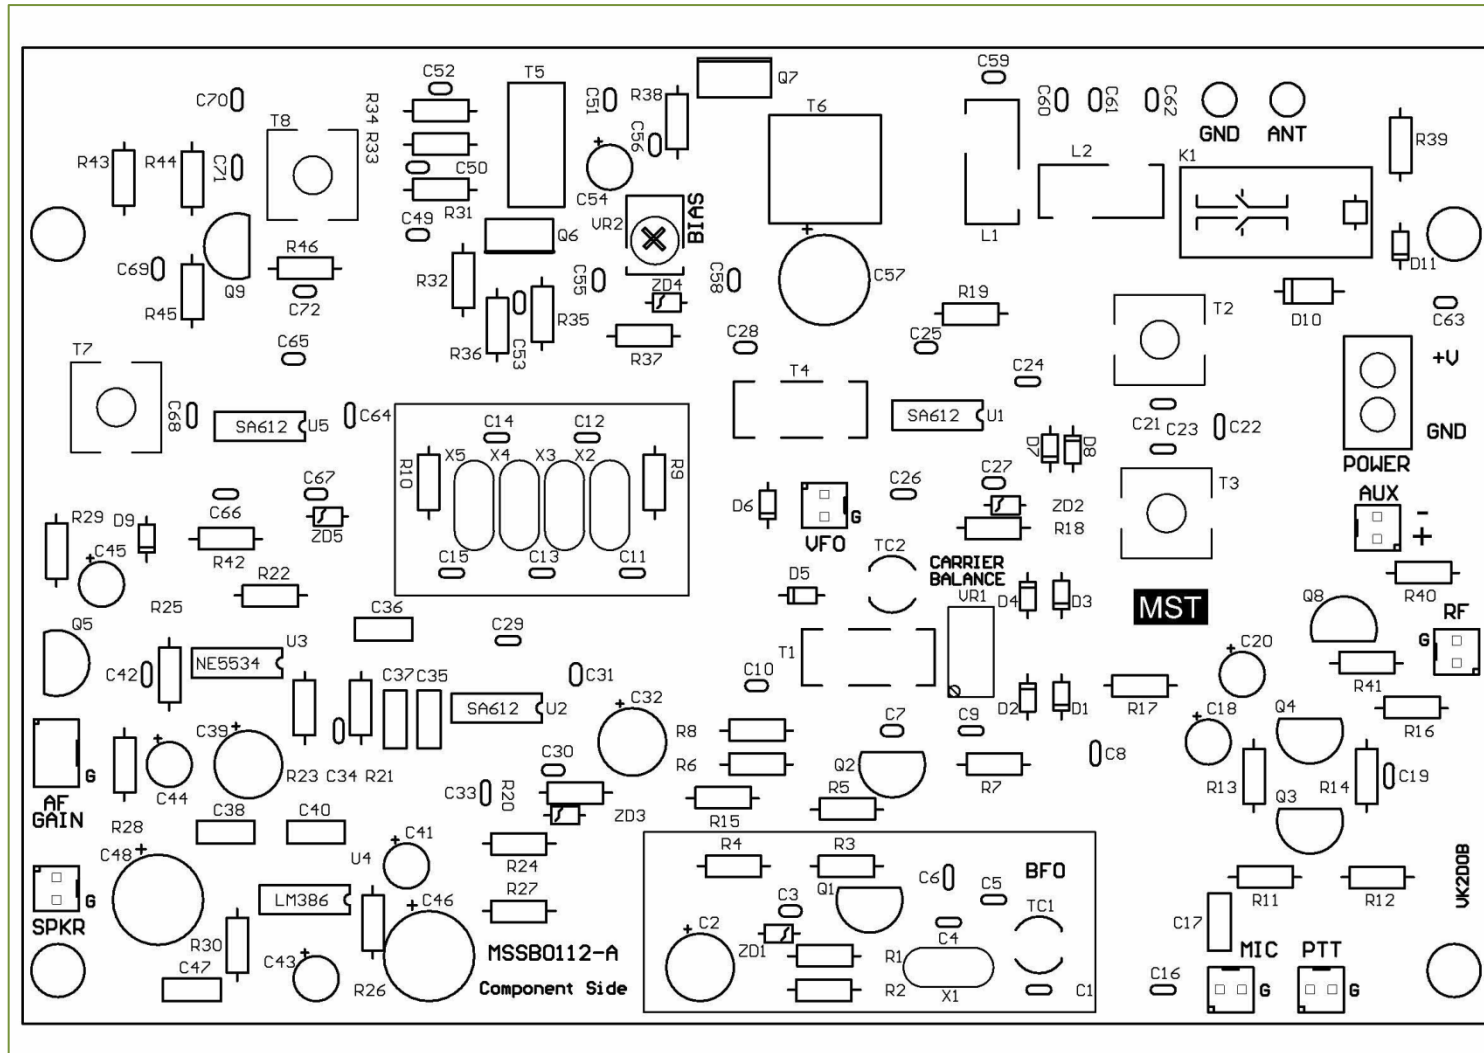

Figure 7 Component overlay
**Refer to the parts list and Figure 7 when installing the components.**